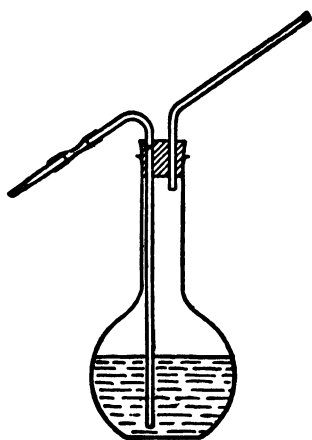

FIG. 4.
b. Bend two pieces of glass tubing as indicated in Fig. 4, fire-polish their edges and insert them in the openings in the cork. Make the nozzle by softening a piece of glass tubing in